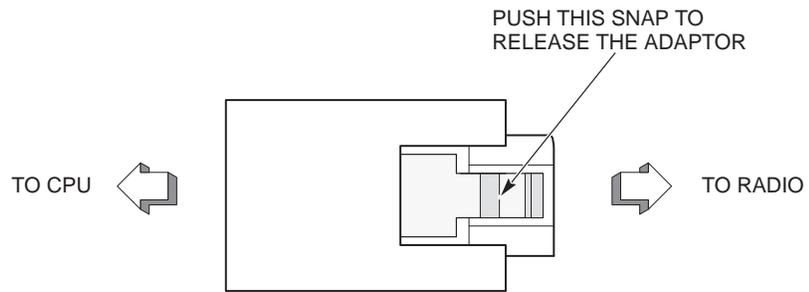

Figure 1. Radio Communications Cable Adaptor
- (1) Disconnect the DC power and antenna cables connected to the radio.
- (2) Disconnect the data cable connected to the 16-pin connector adapter on the radio rear panel.
- (3) Press the snap fastening the adaptor to the radio (see Figure 1) and remove the adaptor.